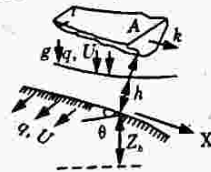

Fig. 1.6.1. Schematic drawing of spatially varied channel flow.
- The channel under consideration as shown in Fig. 1.6.1 has no limitation on geometry of cross section or alignment.